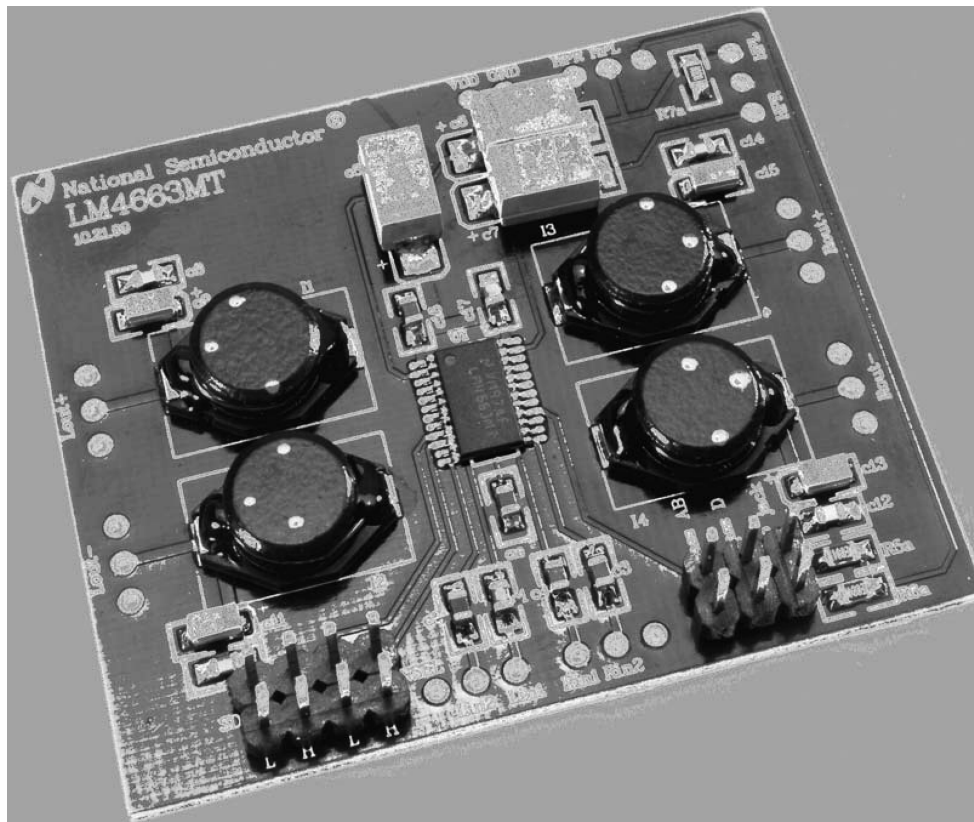

Figure 15. Recommended LM4663 PC Board
Figures (11) through (15) show the layout of a recommended four-layer PC board that is optimized for the LM4663 and associated external components. This layout emphasizes short connections between the power reservoir capacitors near the power amp outputs and their associated pins. Short connections reduce inductance and EMI radiation from the output switching currents. Also, the distance from the switching outputs to the filter inductors is similarly minimized to reduce radiated noise. Table 4 is the recommended circuit's bill-of-materials (BOM). Figure 15 is a photograph of the recommended four-layer PC board.